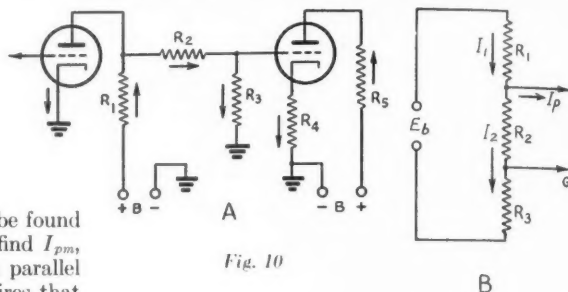

Fig. 10
Fig. 10 illustrates another use for the voltage divider. The coupling circuit shown is that commonly found in direct-coupled amplifiers. From the equivalent circuit of Fig. 10-B, it will be seen that the plate of the first tube is connected at one tap on the voltage divider, while the grid is connected at another tap less positive. It is assumed that the grid of the second tube is biased, by the voltage drop across its cathode resistor, so that the grid does not draw current.
**Example:** In Fig. 10,
The total drop across all resistors is, of course, equal to the applied voltage,  $E_b$ . The voltage across  $R_1$  is  $R_1 I_1$ , while that across  $R_2$  and  $R_3$  in series is  $(R_2 + R_3) (I_2)$ , bearing in mind that no current is being drawn from the tap marked  $G$  in Fig. 10-B, so that the same current flows through  $R_2$  and  $R_3$ . Then,